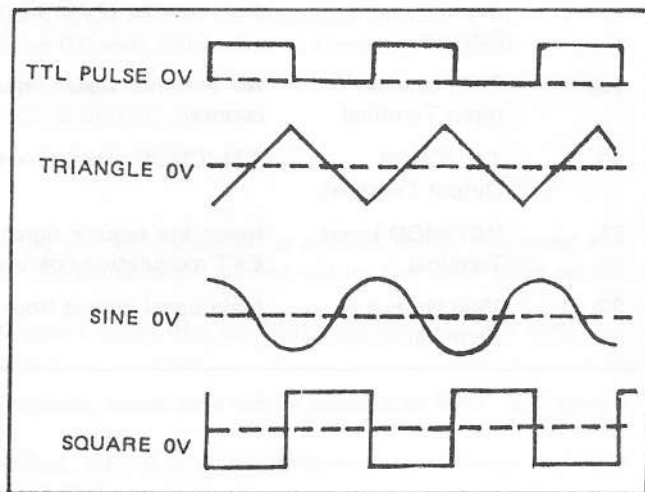

Figure 1.
- (4) If need attenuation output signal, can pull up AMPL ⑫ to get 20dB attenuation.
- (5) Output waveform's phase-relation show in Figure 1.